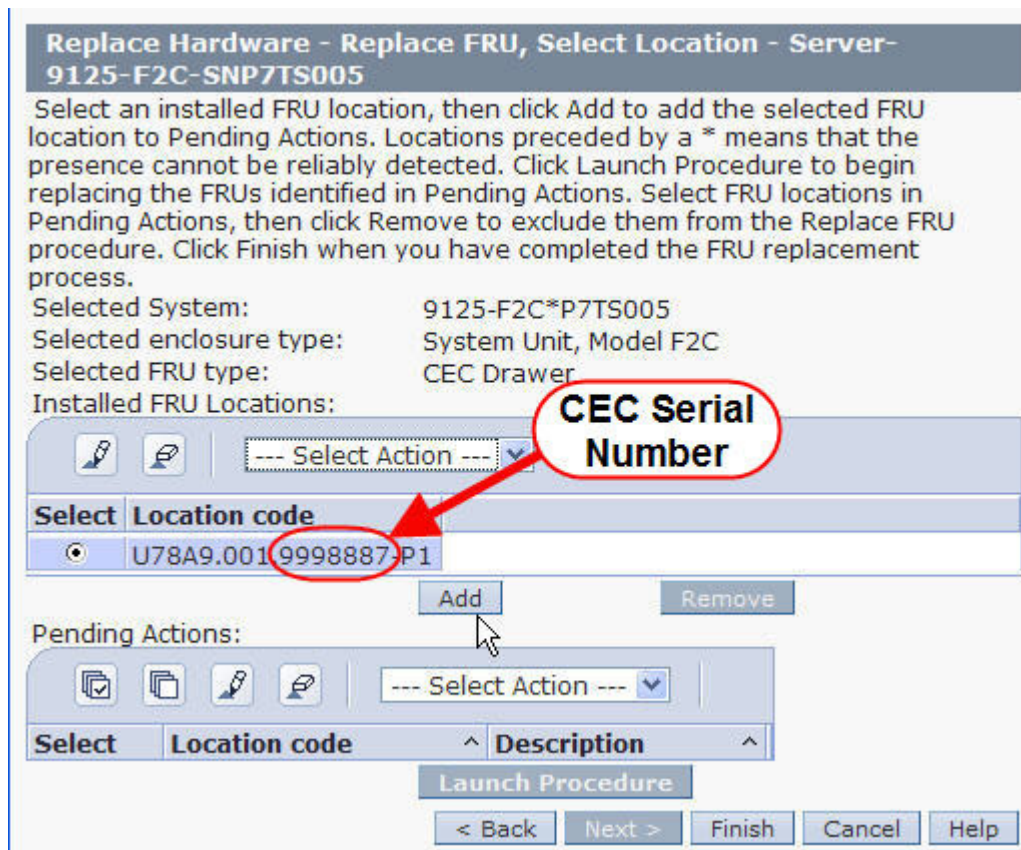

Figure 8 FRU Location Code selection
STEP 12 In the Replace **Hardware – Replace FRU, Select Location** window *select* the FRU Location code (**CEC Drawer**) to be serviced then *click* the **Add** button. See Figure 8.